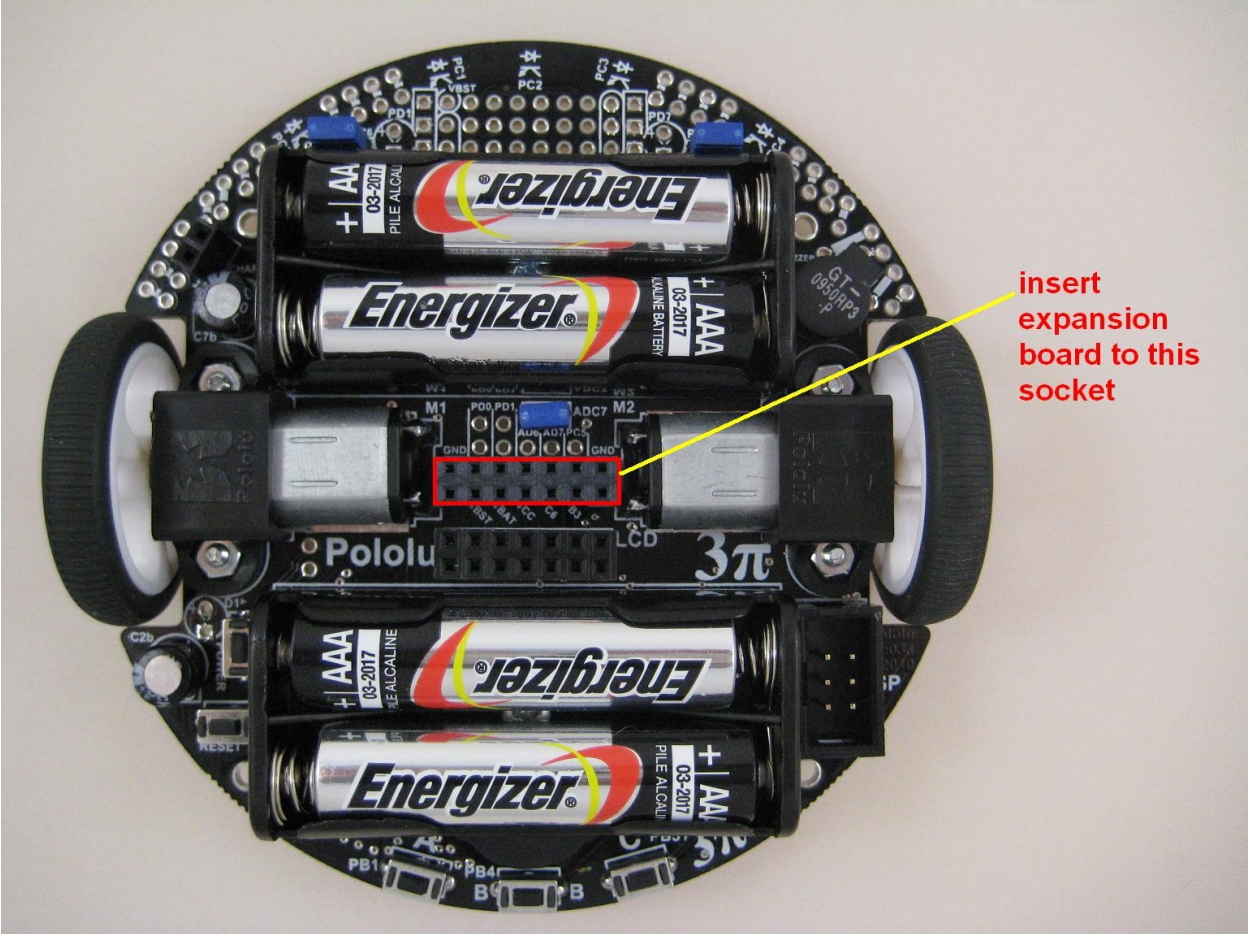

Figure 3
- Insert the Zigbee wireless expansion board BRD-EXP-PLL3PI-ZB on to the robot's expansion connector (in red rectangle) in Figure 3 below: